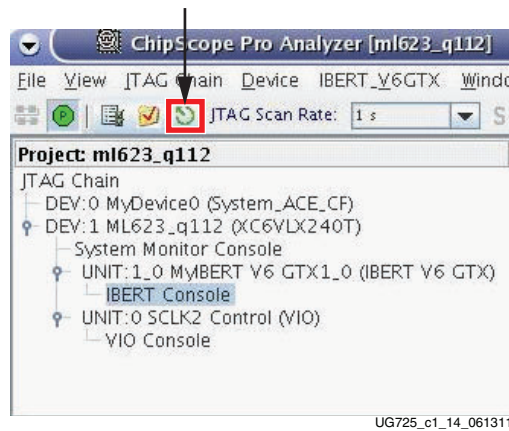

Figure 1-14: Reset All Button
- At the top of the ChipScope Pro analyzer window, click the **Reset All** button (Figure 1-14).